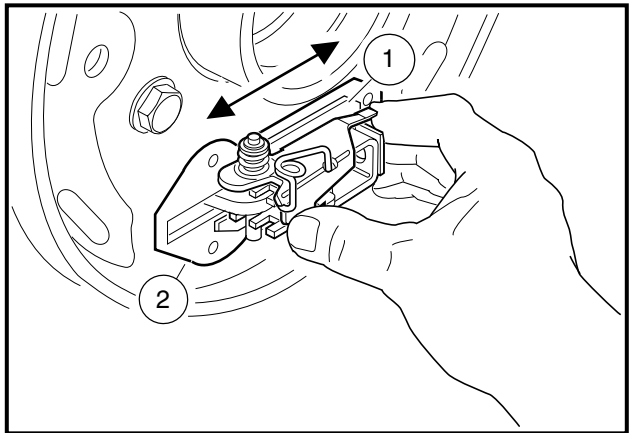

Figure 6-8 Lubricate Slide
- Lubricate the slide (1) and slide plate (2) with dry moly lubricant (CCI P/N 1012151) on both sides of the backing plate. After lubricating, work the slide back and forth to ensure it slides smoothly and easily (**Figure 6-8, Page 6-6**). Reinstall rubber boot onto backing plate.